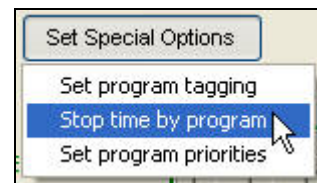

Figure 16.1.15D
12. You can set a stop time for each program by clicking on the **Set Special Options** and scrolling down. Select the **Stop time by program** button (Figure 16.1.15D).